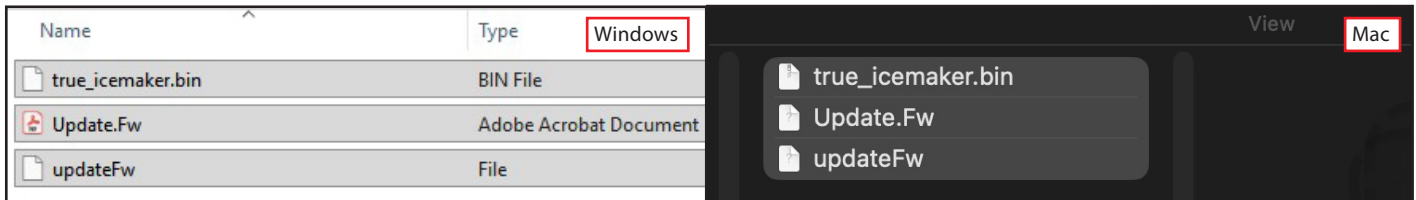

Fig. 8. Select and copy the firmware files.
8. Select and copy all three firmware files. See fig. 8.